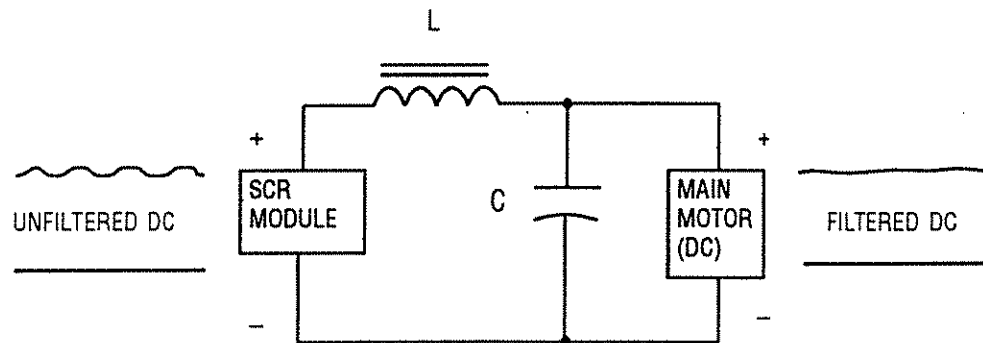

Figure 2-6: LC Filter Operation
The pulsating or ripple component of the DC signal must first be removed through filtering if the main motor is to run quietly and smoothly. This filtering is performed by an Inductor (L), also called a choke, placed in series and a Capacitor (C) arranged in parallel to the main drive motor (DC). See Figures 2-6 and 2-7.